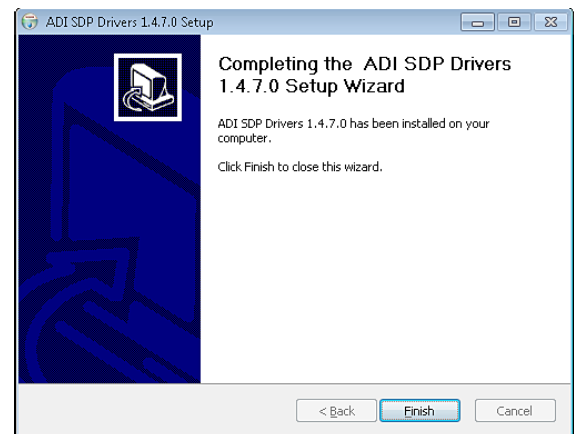

Figure 16. EVAL-SDP-CB1Z Drivers Setup: Completing the Drivers Setup Wizard
- To complete the drivers installation, click **Finish**, which closes the installation Setup Wizard (see Figure 16).